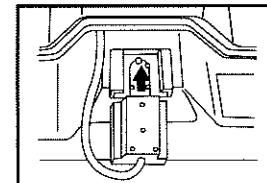

Fig.11
7. Insert the sync connector into the accessory shoe of the camera as shown in Fig. 11.